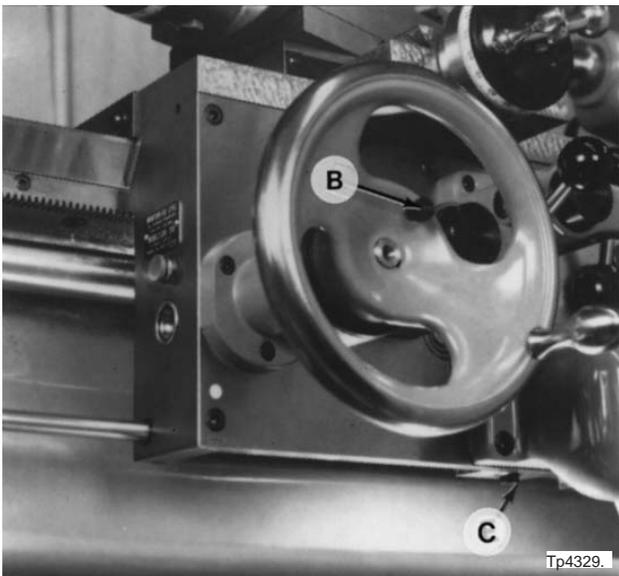

Figure 1.2 - Magnetic Drain Plug
2. Place a drain pan capable of holding one pint of liquid under drain plug "C", Figure 1.2 .